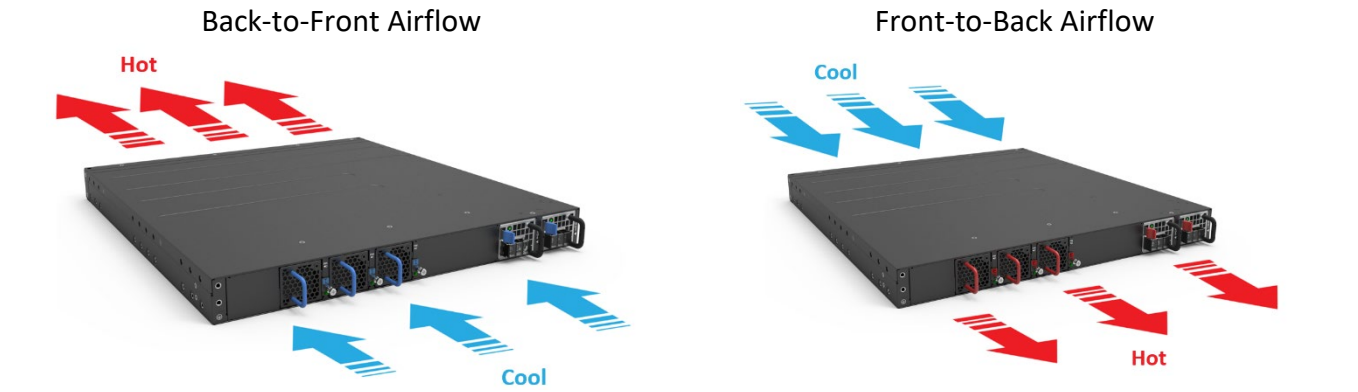

Figure 3.
- Cooling: The S9110-32X has two options for airflow direction. There is a back-to-front option (Figure 3. Left) and a front-to-back option (Figure 3. Right). Make sure the equipment on the same rack have the same airflow direction.